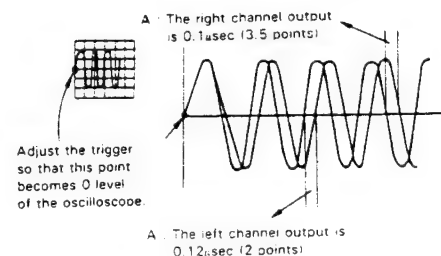

Figure 2-12
4. Adjust the oscilloscope to obtain the output waveform as shown in Fig. 2-12.
5. Adjust R6386 (right channel control) and R6376 (left channel control) so that the part A of output waveform is as shown in Fig. 2-12.